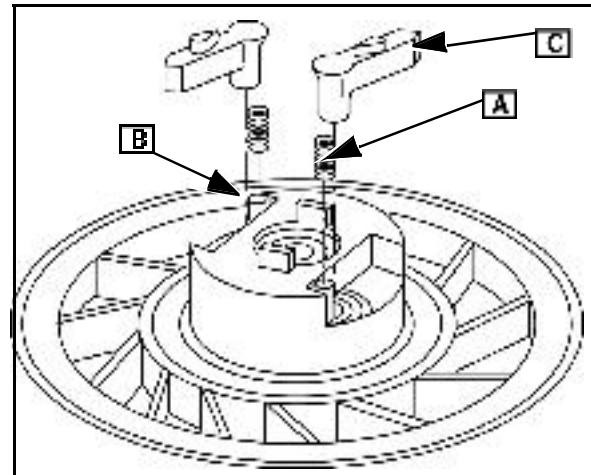

Fig. 9
4. Position springs (A) over posts (B) in pulley. Install pawls (C) Fig. 9).